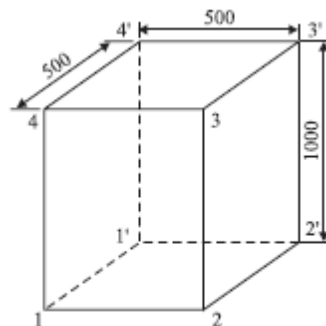

Fig. 5.5. Welded water tank
5 (a) A container open on one side of size 0.5 m × 0.5 m × 1 m is to be fabricated from 6 mm thick plates Fig. 5.5. The plate metal weighs 8 gms/cc. If the joints are to be welded, make calculations for the cost of container. The relevant data is: (8) BT3